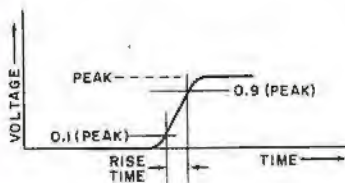

Fig. 10. Diagram shows how risetime of a wave is defined.
**Risetime.** Those of us who do a lot of work on digital circuits are particularly interested in the risetime of a scope. As illustrated in Fig. 10, the risetime of a pulse is the time it takes for the leading edge of a square wave to rise from 10% to 90% of its peak value. If, for example, it is necessary to measure within 3% a waveform risetime known to be in the 0.04- $\mu$ s range, an oscilloscope with a risetime of not more than 0.01  $\mu$ s would be required.